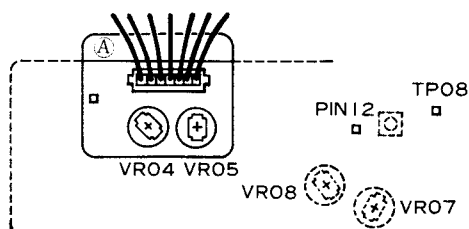

Fig. 2
Insert the jig from (A) in Fig. 2 into the 7P plug on the Control P.C.Board and pull out the test points. Then, perform the adjustments.